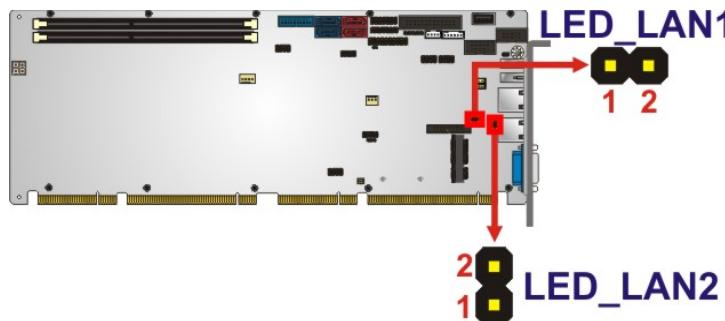

Figure 3-16: LAN LED Connector Locations
**CN Location:** See Figure 3-16